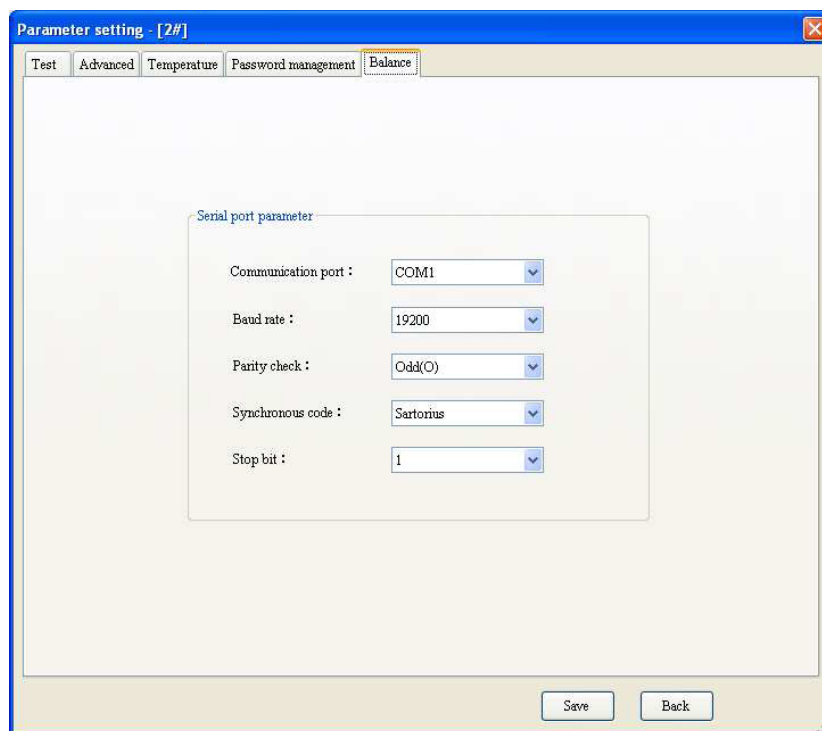

Fig.4-2-5
5. Balance Tabs as shown in Fig.4-2-5: